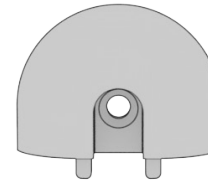

FIG 9
**2.4 Attach End Caps:** We've supplied **End Caps** to use at your discretion. Simply snap it into place in the orientation shown in **FIG 9** and finish by driving a **#8 Screw** into your wall panel (if applicable).